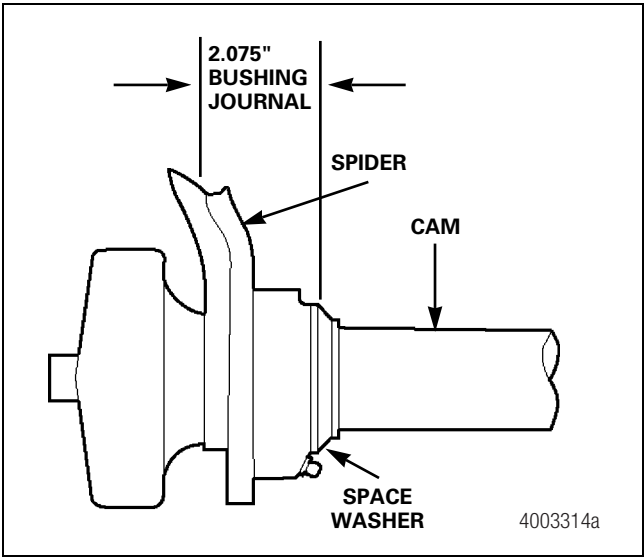

Figure 12.13
- Cams with heat-treated journals are used with metal sleeve bushings. A spacer washer is used to make up the difference in width between the cam bushing and journal. Figure 12.13.